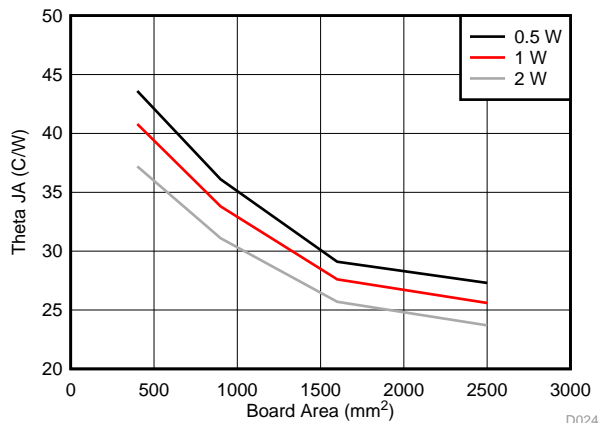

Figure 17. $R_{\theta JA}$ vs Copper Board Area
It is easy to see that larger ambient temperatures (T_A) and larger values of R_{θJA} reduce the maximum available output current. As stated in Semiconductor and IC Package Thermal Metrics, the values given in the Thermal Information table are not valid for design purposes and must not be used to estimate the thermal performance of the application. The values reported in that table were measured under a specific set of conditions that are never obtained in an actual application. The effective R_{θJA} is a critical parameter and depends on many factors such as power dissipation, air temperature, PCB area, copper heat sink area, number of thermal vias under the package, air flow, and adjacent component placement. The LM53603 uses an advanced package with a heat spreading pad (EP) on the bottom. This must be soldered directly to the PCB copper ground plane to provide an effective heat sink, as well as a proper electrical connection. The resources in Ground and Thermal Plane Considerations can be used as a guide to optimal thermal PCB design and estimating R_{θJA} for a given application environment. A typical example of R_{θJA} versus copper board area is shown in Figure 17. The copper area in this graph is that